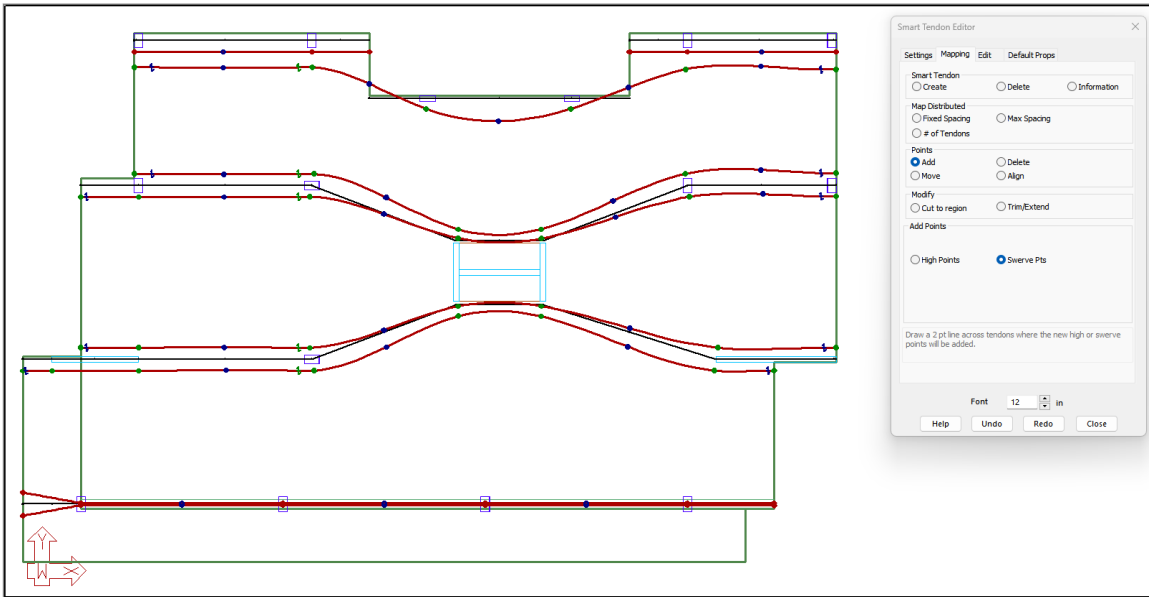

FIGURE 9-63
- When you finish the construction line, swerve points will be added to the left of those columns, as shown in **FIGURE 9-63**.